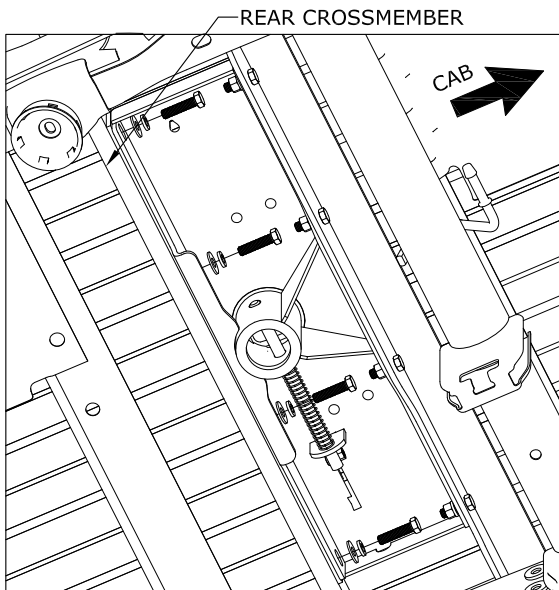

FIGURE B11: View under the center section looking from in front of the axle on the passenger side.
6. **Attach the rear cross member to the center.** Slide the rear cross member up against the center section. Line up the slots in the center with the threaded holes in the cross member. Attach the two members using $\frac{1}{2}$ x 2" long bolts, flat washers, and lock washers as shown in figure B11. Hand tighten bolts.